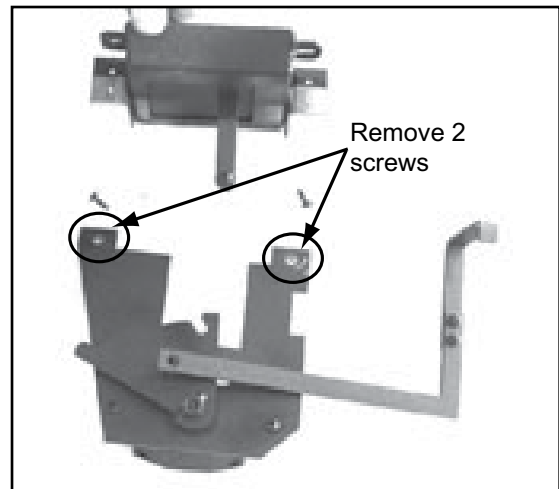

Figure 36.4
4. You will need to disconnect air chamber cover from timer assembly before installing in the fireplace. Set screws aside for later use. Figure 36.4.